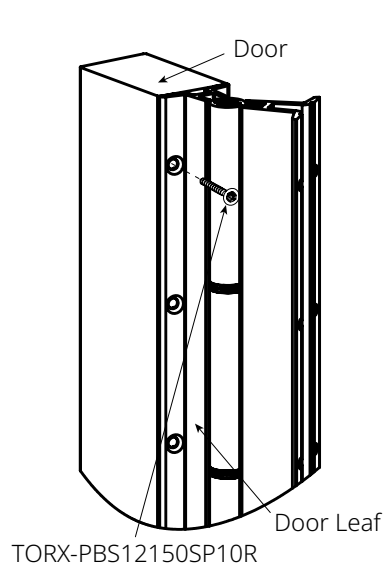

Fig. 4
- A. Attaching hinge to door (Fig 4):
Install screws to attached hinge to door using T-25 driver (Fig. 4).